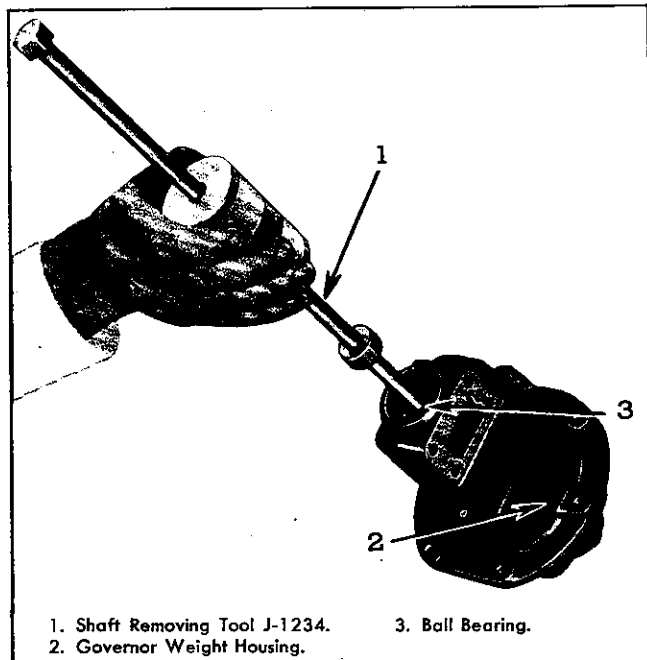

Fig. 15—Removing Weight Carrier Shaft from Ball Bearing with Tool J-1234.
3. Using Tool J-1234, as shown in Fig. 15, screw threaded end of tool into tapped hole at end of weight carrier shaft, and remove shaft from bearing by tapping weight against shoulder on rod.